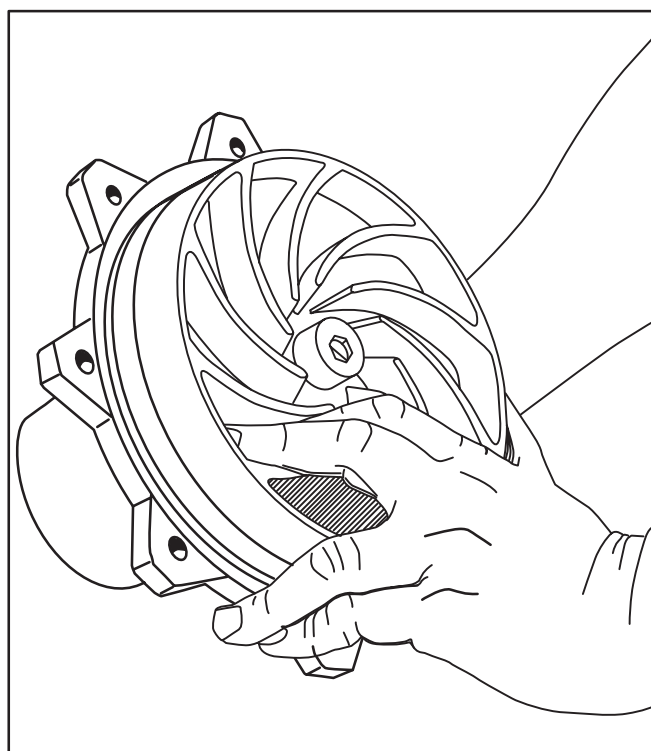

Fig. 19
6. Unscrew impeller, turn counter-clockwise to loosen. Fig. 19